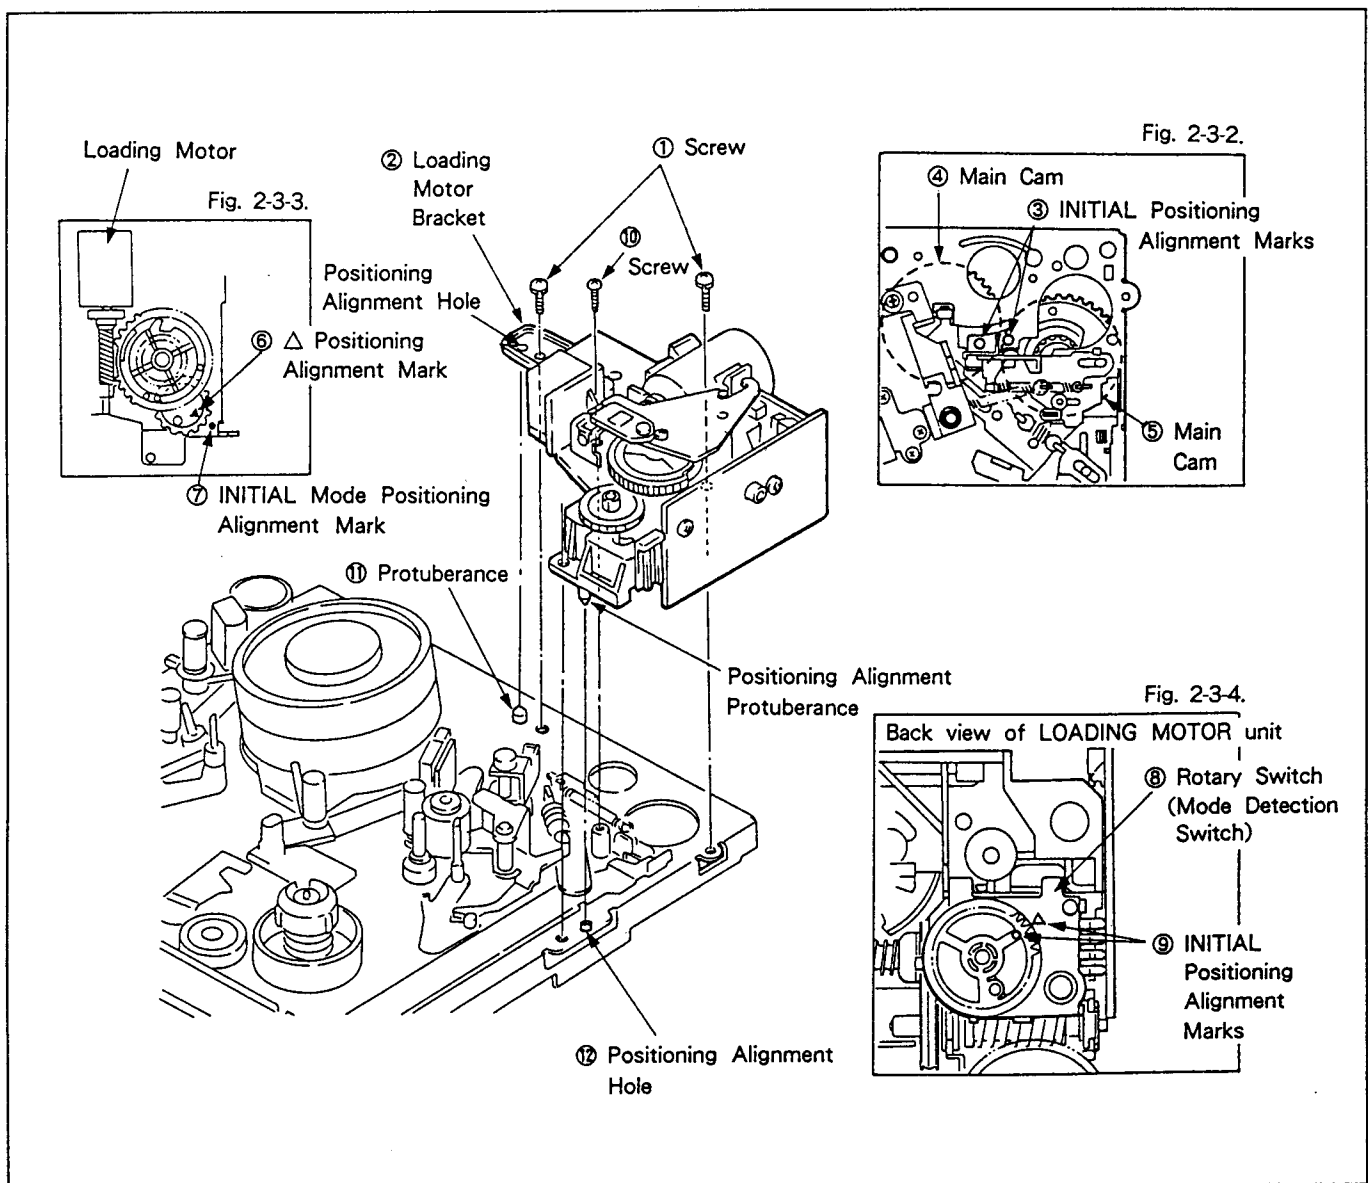

Fig. 2-3-1. Compl Motor Bracket
- 3) Remove the two screws ① and the other one ⑩, then remove the COMPL MOTOR BRACKET ② (see Fig. 2-3-1.).